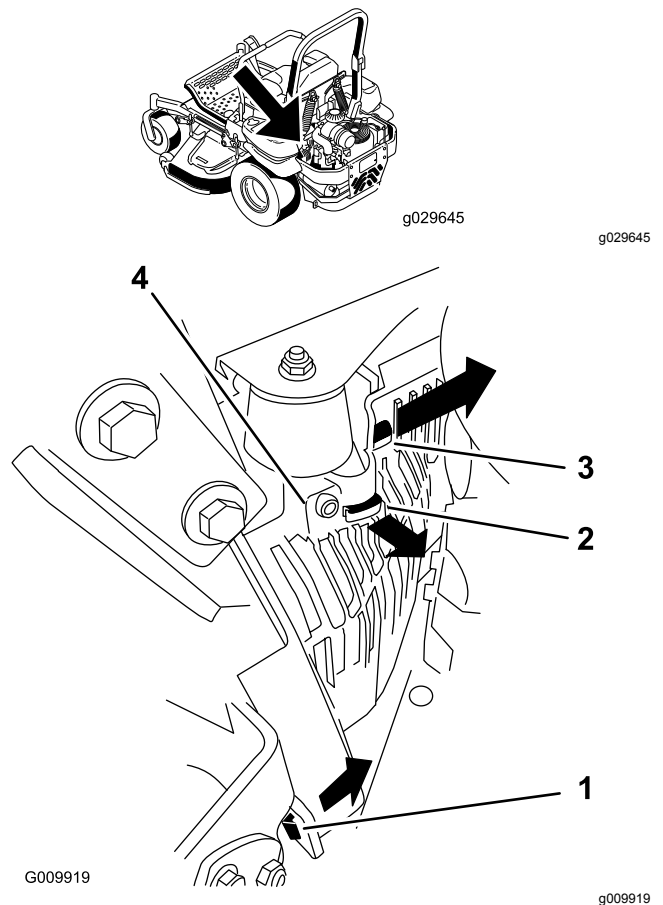

Figure 56
3. Remove the left hand hydraulic-unit shroud in the order listed in Figure 56.
5. Install the left hand hydraulic-unit shroud (Figure 56).